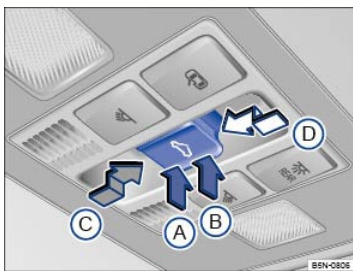

Fig. 79 In the headliner: Power sunroof switch.
The  switch ⇒ Fig. 79 has 2 detents for each switch position (A, B, C, and D),
- Press the  button ⇒ Fig. 79 within about 5 seconds after the sunroof has stopped and hold it in the direction of the arrow ① at the second detent until the power sunroof closes completely.